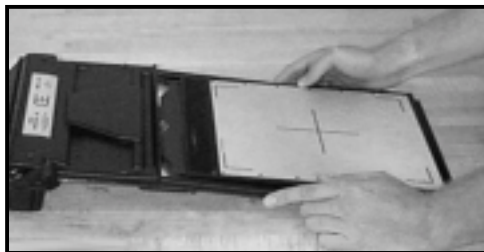

Figure 9
2. With the silver side of the cassette facing up, slide the end of cassette with protruding film tab into processor. (*Figure 9*)